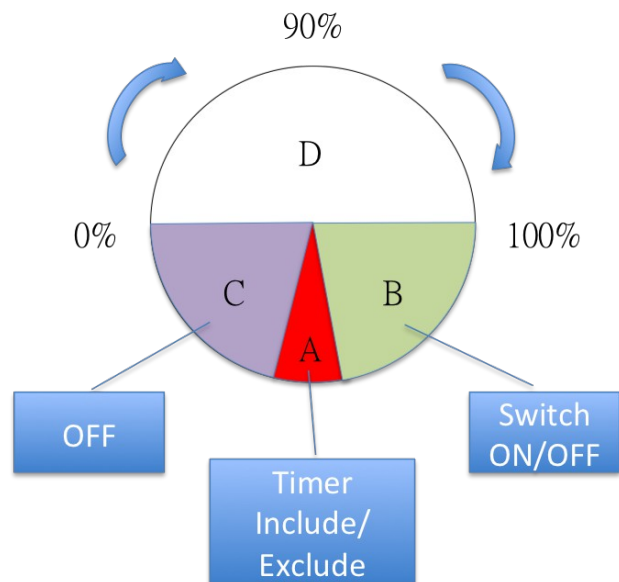
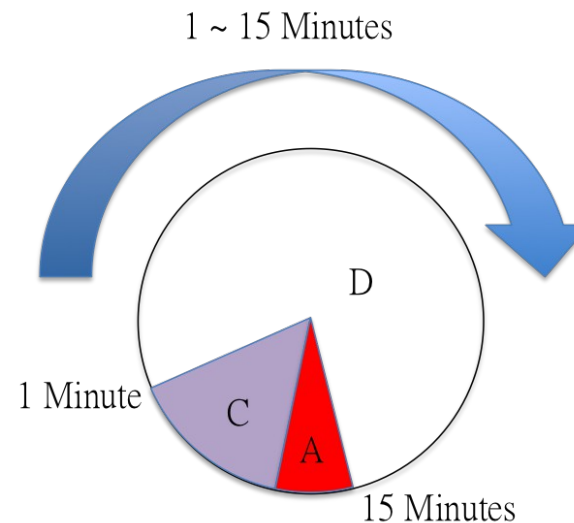

Figure 1
Figure 2
In the first time, add the device into the Z-Wave™ network. Make sure the primary controller is in the add mode. And then power on the device through micro USB. The device will auto start the NWI (Network Wide Inclusion). Red LED will flash every second and continue 30 seconds. And it should be included in 5 seconds. Red LED will light ON one second. Rotating to area A (shown in Fig. 1) and touch 3 times can abort NWI mode.
1. Include: Pointing the arrowhead to area A first (shown in Fig. 1). Pressing the button three times within 1.5 seconds. The red LED will light up for 1 second if succeed.
This device can control dimmers in group 2 using three ways: Dimmer, Timer, and On/Off Switch. Point the arrowhead to area A (shown in Fig. 1 and Fig. 2) then hold the button, release after the red LED goes out. One beep means entering Timer mode or two beeps means entering Dimmer mode. The device can switch to On/Off Switch mode automatically when fitting horizontal.
area A (shown in Fig. 1). Rotate the device to area B, C, D (shown in Fig. 1) then touch the button can set the status to On. After a short beep, the surround LED will change gradually from blue to red in area D. It will send Basic set command automatically 1 second after rotating stop. To turn Off the device in group 2, you can rotate PSR04 to area C or touch the button again.